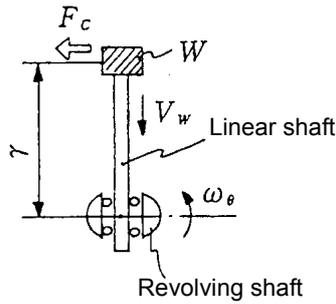

Fig. 2-19 Coriolis's force
When an object (W) on the revolving shaft moves at V_w speed, coriolis's force (F_c) which is in proportion to the double of the product of W , revolving shaft angular speed (ω_θ) and speed (V_w) occurs in the vertical direction to V_w on the object (W). (Fig. 2-19)
On Fig. 2-19, a torque which is the multiplication of coriolis's force (F_c) by radius (r) occurs on the revolving shaft, and a friction resistance which is the multiplication of coriolis's force (F_c) by slide part friction coefficient occurs on the linear shaft.